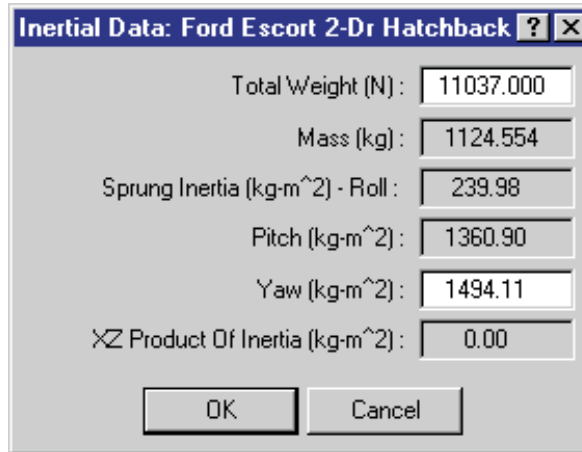

Figure 5-3 Vehicle Inertias dialog, used for editing the current weight and yaw inertia (roll and pitch inertias are not used by EDCRASH).
- Click on the CG and choose *Inertias*. The Inertias dialog is displayed (see Figure 5-3), and we're ready to change the vehicle's weight.